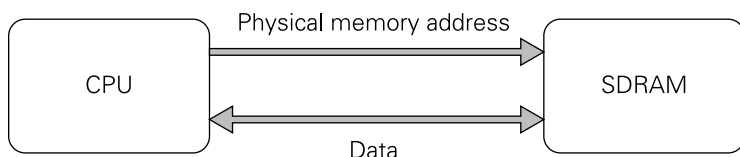

FIGURE 3-13: Direct use of physical memory addresses
Consider a process running on a machine that does not have an MMU. As it executes, it accesses memory to fetch instructions and to read and write data. It takes the addresses that the CPU has generated and use them directly to access memory, so if your program performs a read from address 0, this would automatically read the very first thing contained in the physical SDRAM connected to your CPU chip. Figure 3-13 shows the setup, in which the CPU directly generates physical addresses.
- **Virtual memory:** You saw in the preceding section that by allowing infrequently used areas of memory to be swapped out to disk, you can support programs that need to work on larger amounts of data than can fit in the machine's physical memory. In the simple setup (see Figure 3-13), there is no mechanism to trap accesses to parts of memory that have been swapped out.